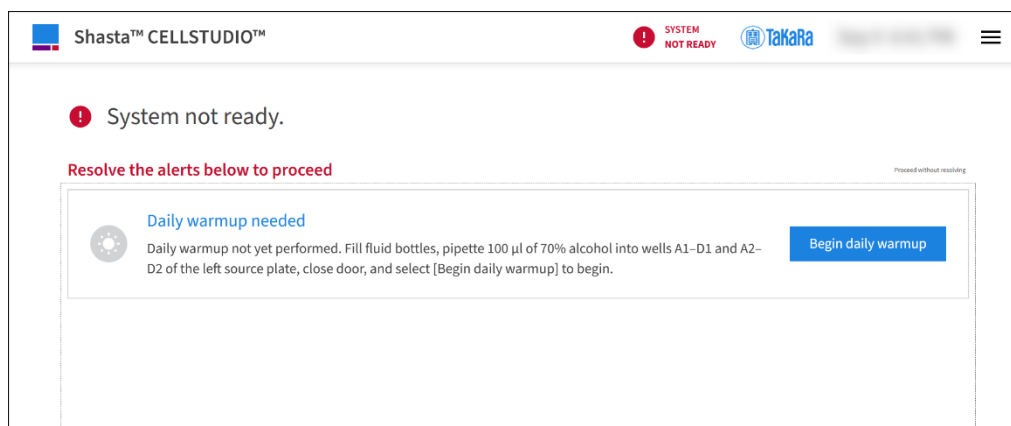

Figure 17. An example *Action Center* view.
3. Upon successful completion of the system initialization, the LED status indicator will change back to blue, and you will be presented with either *Action Center* view (Figure 17), if there are any system actions required, or the *Home* screen (Figure 24) if there are not.